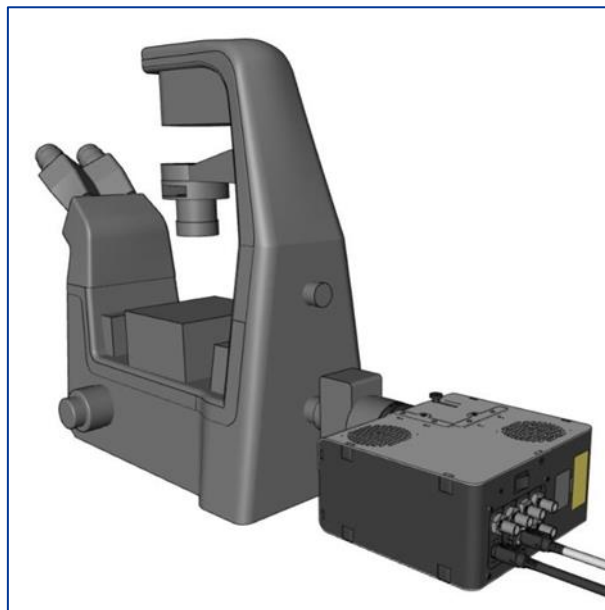

Figure 11: Figure 11 – A pE-400max fitted to a microscope in a horizontal orientation
- The Light Source may be oriented horizontally or vertically to fit the microscope, provided the air vents are not obstructed (Figure 11).